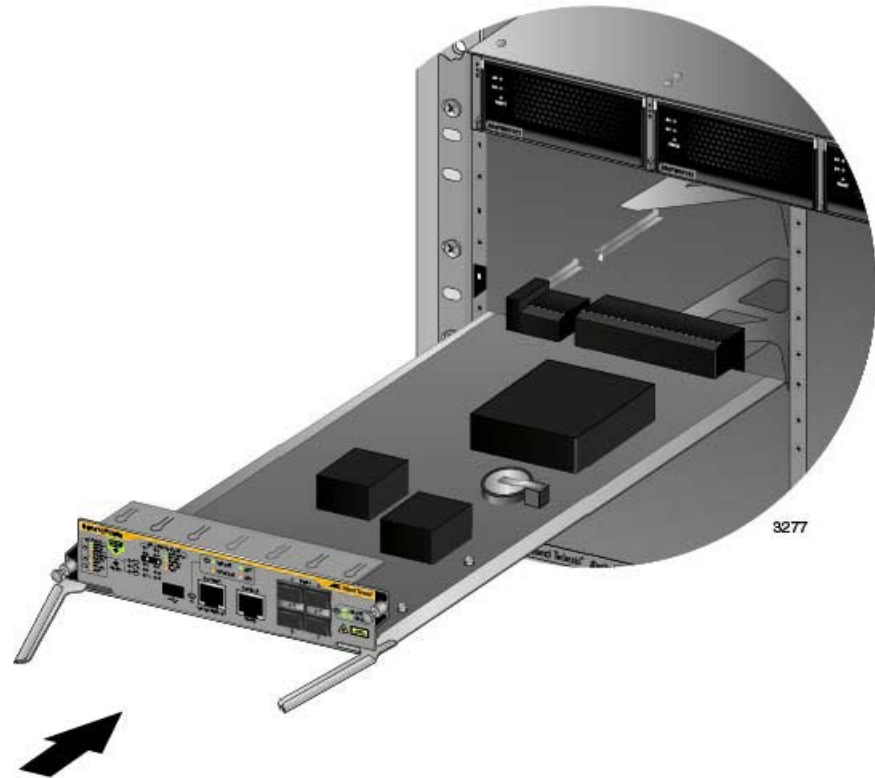

Figure 71. Aligning the AT-SBx81CFC960 Card in the Chassis Slot
6. Align the edges of the AT-SBx81CFC960 Controller Fabric Card with the internal chassis card guides in slot 5 or 6 of the AT-SBx8112 Chassis. Figure 71 on page 143 shows the AT-SBx81CFC960 Card aligned in slot 5.